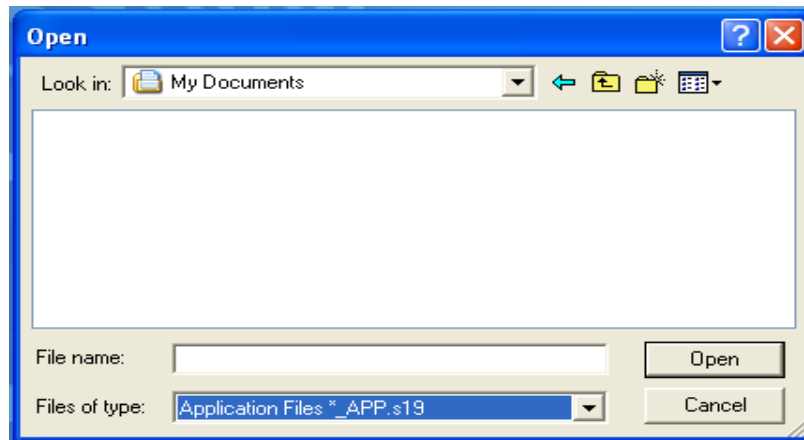

Figure 25 Open Screen
3. Enter the path name to the new released file. If the user does not know the path name, press the Browse button and Figure 25 will be displayed. Locate and click on the file and click the Open button. The file will be in the form '925000062A ENTA2v1.00Build 1129\_APP.s19'. The File Name field will be completed for you.